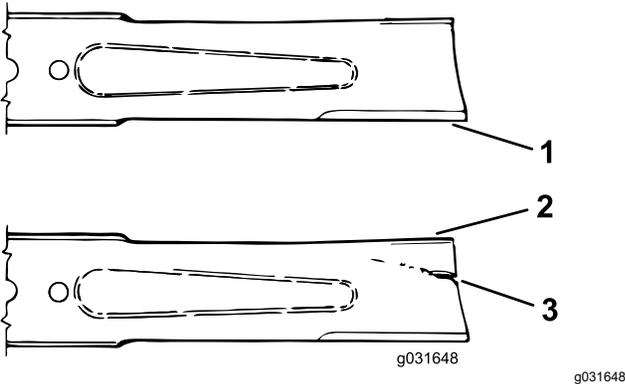

Figure 69
3. Examine the cutting ends of the blade carefully, especially where the flat and curved parts of the blade meet (Figure 69).